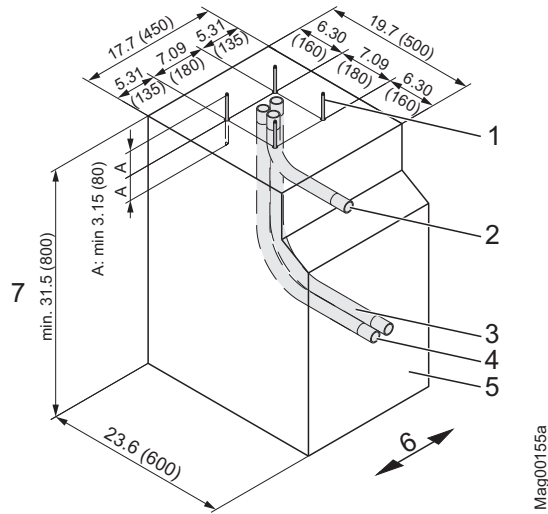

Fig. 14: Foundation plan
→ See page 52, Fig. 13 and page 54, Fig. 14.
→ See page 54, Fig. 14.
1. Dig foundation hole pursuant to Fig. 13 and Fig. 14.
3. Place empty conduits pursuant to Fig. 14 in the foundation hole.